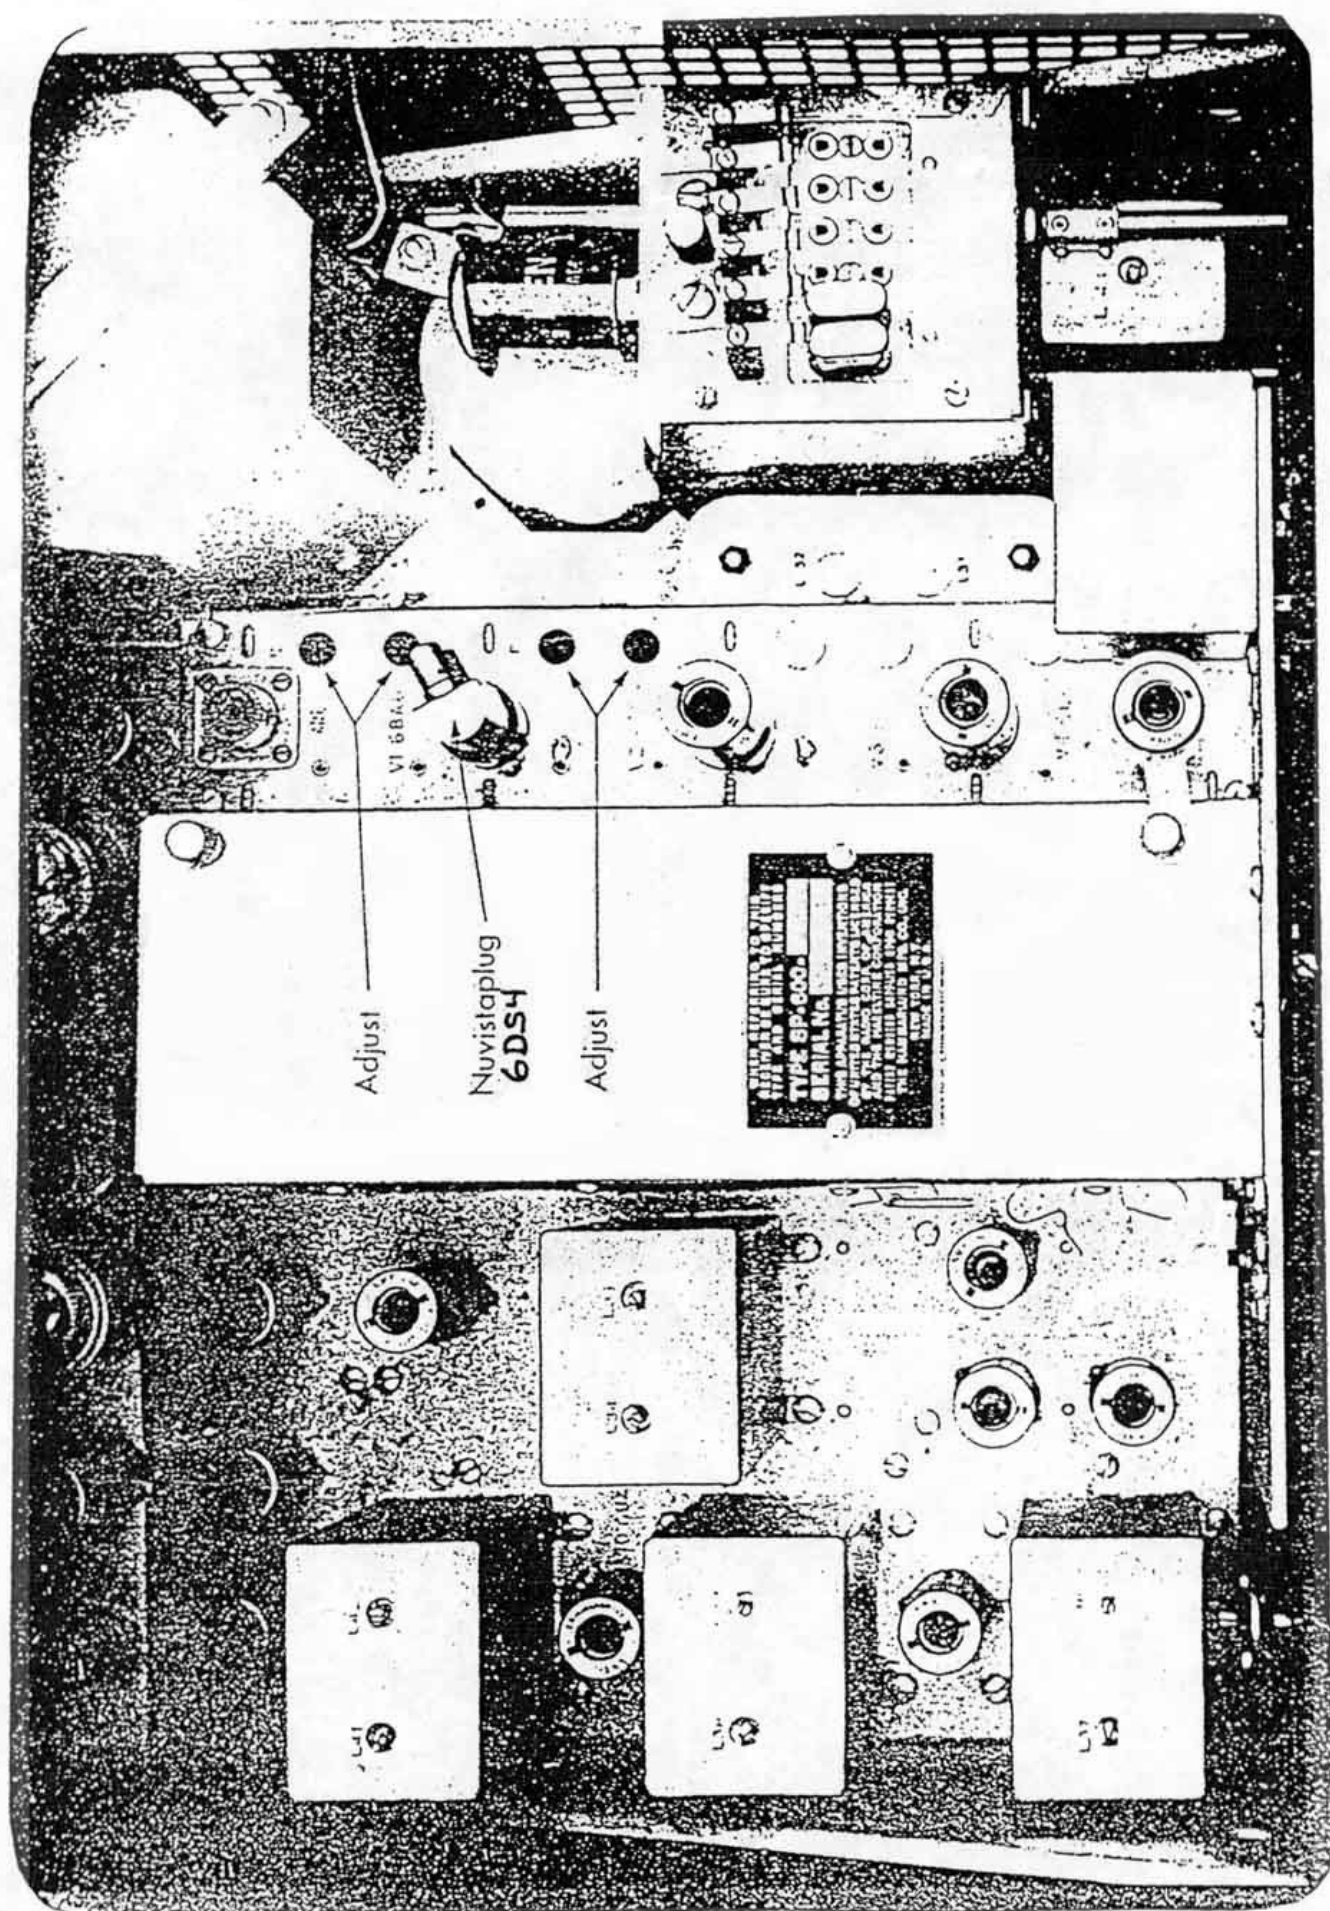

FIGURE:2 NUVISTA PLUG IN SP-600
6. Adjust the trimmers for the antenna and the first RF stage while listening to the tone output (See Figure 2). Each time an improvement is made, decrease the amplitude of the CW generator output so that the audio tone is barely heard under the internally generated white noise of the receiver. In most cases the two trimmer capacitors marked "C" need to be readjusted, but the two trimmer inductors marked "L" do not need readjustment.